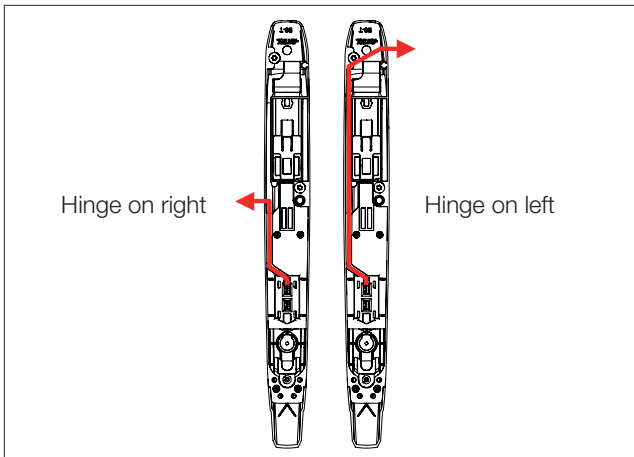

Fig. 12: Inserting the cable
- Pass the cable through the opening in the VX glazed door, depending on the position of the hinge (fig. 12).